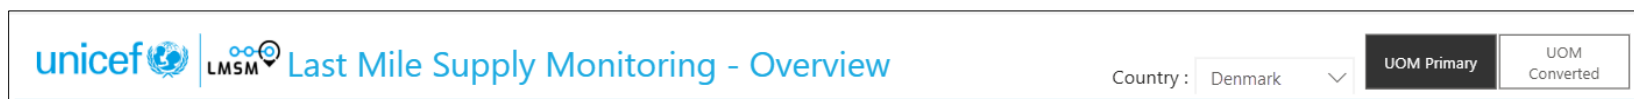

Fig 1: UOM selection button – Before
2.1 Previously, the UOM selection buttons were labelled "**UOM Primary**" and "**UOM Converted**". For RUTF, upon selecting UOM Primary, the units would switch to Cartons; upon selecting UOM Converted, the units would switch to Sachets. (Fig 1)